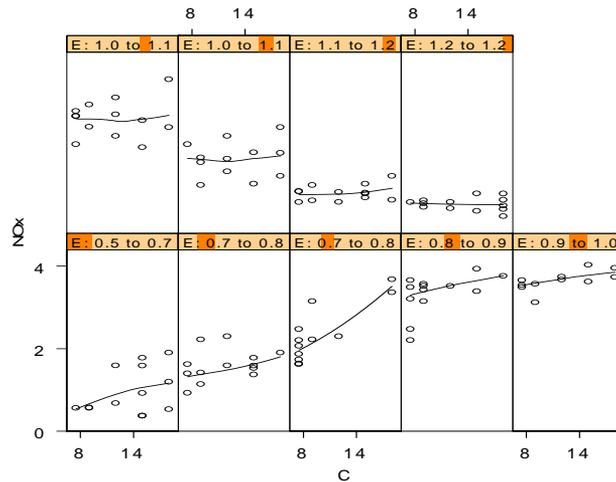

Figure 3.40: Compression ratio versus nitrogen oxide conditioned on equivalence ratio.
4. Click the **Position/Size** tab of the dialog. Type **2.5** for **Aspect Ratio** and click **OK**. The resulting graph is shown in Figure 3.40.